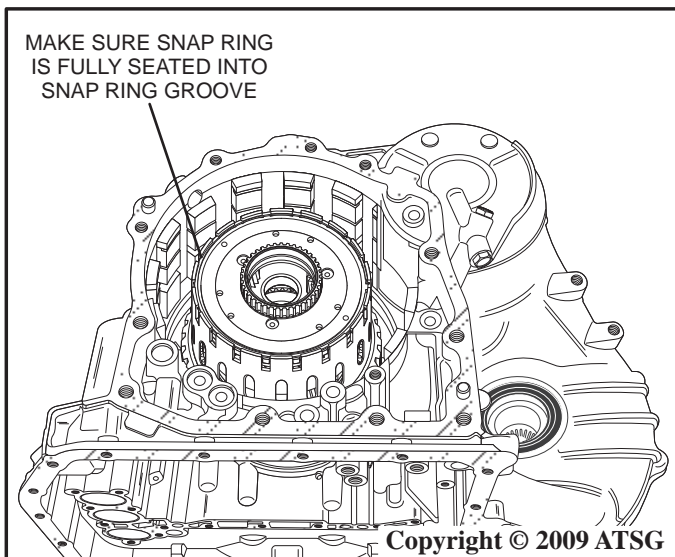

Figure 157
24. Make sure snap ring is fully seated into the snap ring groove as shown in Figure 157.